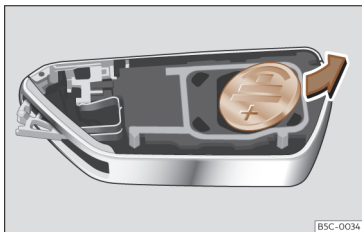

Fig. 75 Vehicle key: removing the battery.
- Remove the battery from the compartment with a suitable thin object >>> **Fig. 75**.
- Insert the new battery and press it into the battery compartment >>> ③.